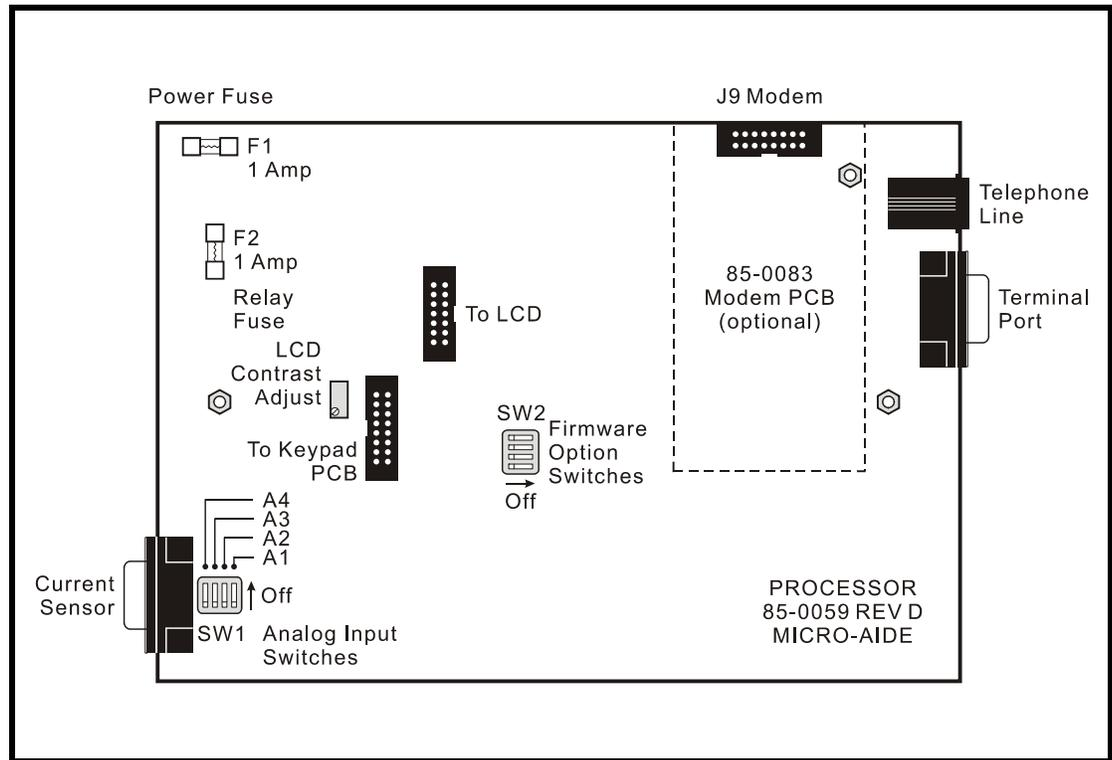

Figure 6 - CWR-22xt Processor PCB
The contrast level of the LCD panel may occasionally need to be adjusted to compensate for extreme variations in ambient temperature. To adjust the contrast level simply adjust the potentiometer labeled “LCD Contrast” in Figure 6 on page 73.
There are two DIP switch assemblies mounted on the Processor PCB. Each DIP switch assembly contains four switches. Labeling on the body of the switch assembly indicates the on and off positions for each switch. The location of each switch is illustrated in Figure 6 on page 73.
2. Locate the sixteen-pin male connector labeled "J9 MODEM" near the upper right-hand corner of the Processor PCB. The modem connector is illustrated in Figure 6 on page 73. Temporarily remove the 6-32 1/4" screw and lock washer secured to the hex stand-off located near the modem connector.